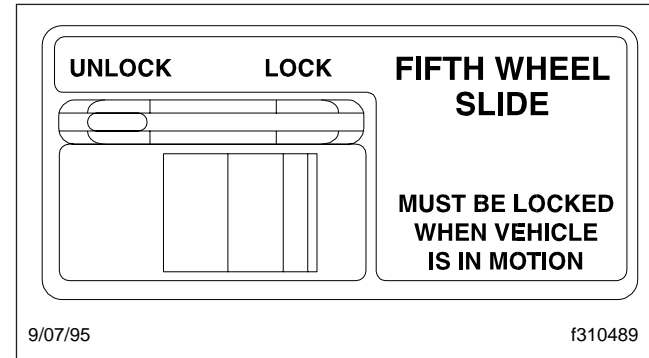

Fig. 8.9, Cab Control, Fifth Wheel Slide
- 2.1 For air-operated release models, set the cab-operated control switch (**Fig. 8.9**) to UNLOCK.